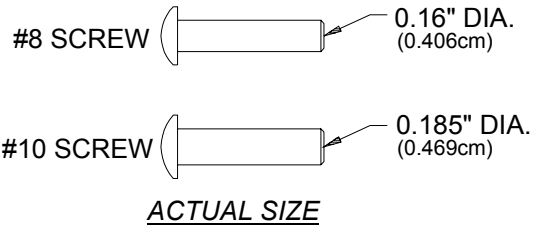

Figure 7.11 - #8 & #10 Screw Sizes
3. Compare removed screw to screws in Figure 7.11.